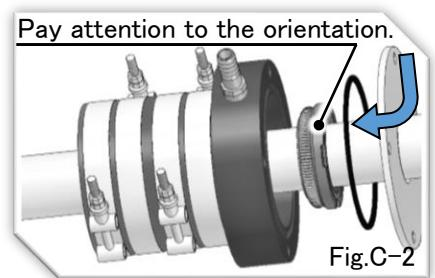

Fig.C-2
4. After clean surface of the propeller shaft, slide seal ring, O ring, mating ring onto the shaft in order. (See Fig.C-2)